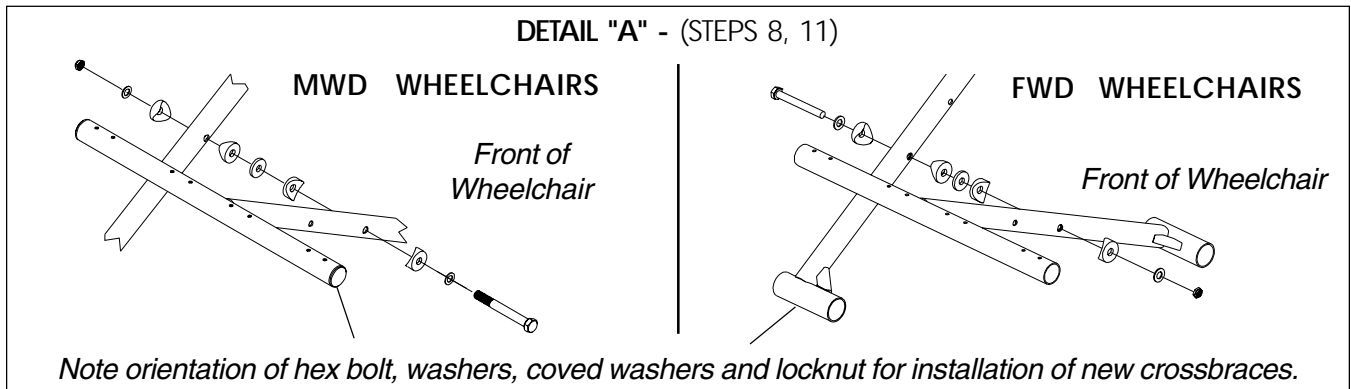

FIGURE 1 - ADJUSTING SEAT WIDTH - INTEGRATED SLING SEAT S
7. Remove the hex bolts, washers and locknuts that secure the bottom of the two (2) crossbraces to the wheelchair frame.
8. Remove the hex bolt, coved spacers, washers and locknut that secure the two (2) existing crossbraces together.
9. Remove the four (4) pivot tube plug pins from the bottom of the two (2) existing crossbraces.
10. Install the four (4) pivot tube plug pins into the bottom of the two (2) new crossbraces.
11. Assemble the two (2) new crossbraces together. Refer to DETAIL "A" in FIGURE 1 for hardware orientation.
NOTE: FWD wheelchairs only - There are right and left crossbraces. Refer to DETAIL "B" in FIGURE 1.